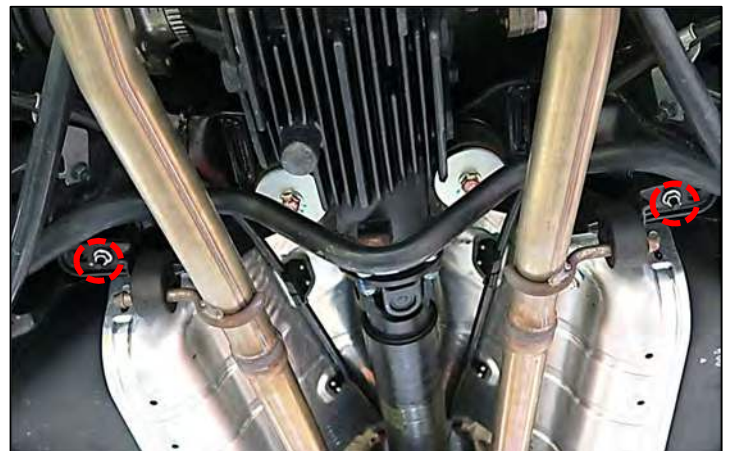

Figure 112
109. Reinstall the rear exhaust tube mounting brackets and hand start the (2) nuts. (Figure 112)